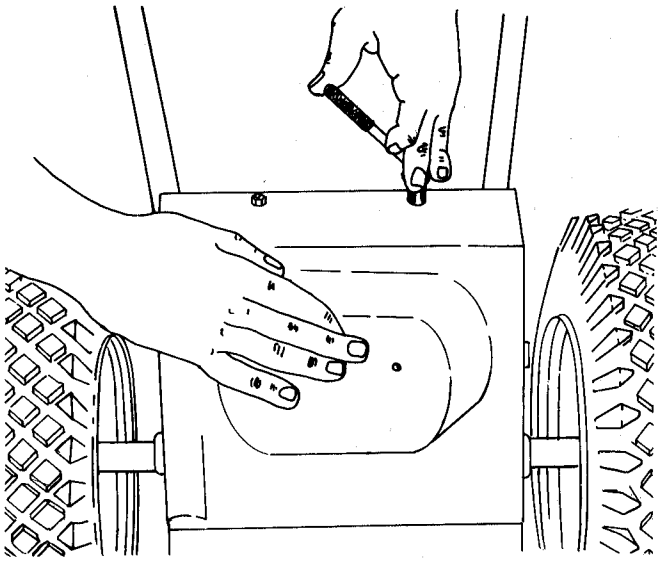

FIGURE 3.23 — REMOVING BOTTOM COVER
STEP 1: Remove the cover from the bottom of the frame (Figure 3.23).